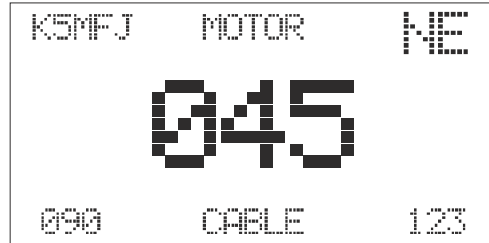

Figure 4. LCD Display
3. The YRC-3 display should look similar to the display shown in Figure 4. The numeric display in the center indicates the current bearing of your rotator. The numeric display in the lower right corner indicates the target bearing that is manually set. The numeric display in the lower left indicates target bearing that is computer set. The character display in the upper right corner indicates the compass heading in "NESW" format. The alphanumeric display in the upper left corner is where the call sign is displayed if programmed. If the center display reads a steady "999", disconnect your control cable and check the cable wiring with an ohmmeter. The resistance of the position sense pot measured between pin 1 and 3 should be 500 ohms plus the cable resistance. The reading between pins 2 and 3 should be somewhere between 0 and 500 ohms depending on the heading of the rotator. Anything much over 500 plus the resistance of the cable indicates a